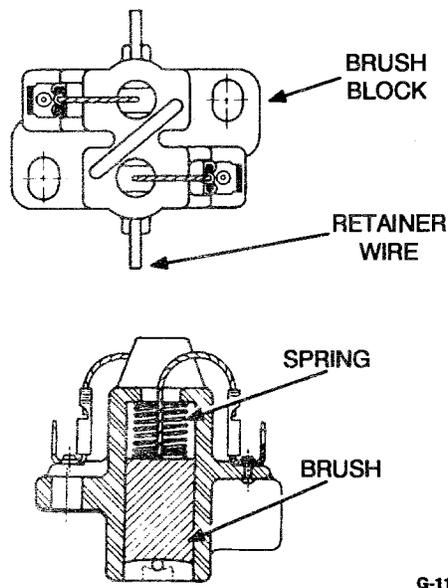

FIGURE 8-10. BRUSH REPLACEMENT
2. Install the brush block assembly in the stator housing. Lift the brush wires and install the brush holding wire in the housing. The wire holds the brushes off the slip rings during assembly (see Figure 8-10).
8. While continuing to hold the brushes away from slip rings, insert the brush retainer wire from outside stator housing hole, through brush block assembly. Release both brush lead wires. See Figure 8-10.